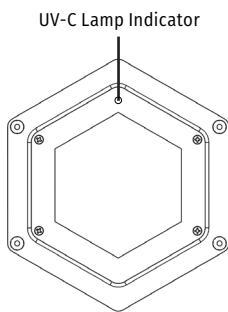

Fig. 5 UV-C lamp indicator
- For optimal performance, replace the device ionizing cell every 4 years and UV-C lamp every 2 years, even if the UV-C lamp appears to be operating normally. (See Fig. 5)